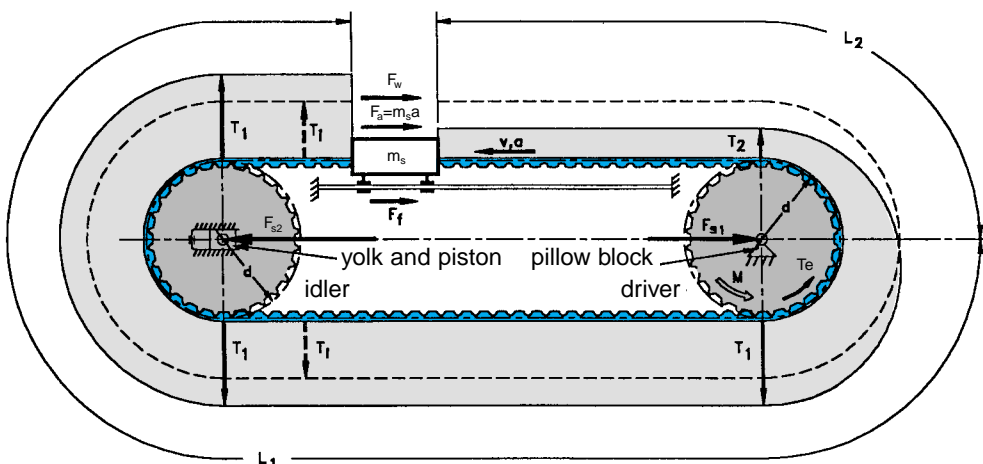

FIG. 3.
$T_e$  for a linear positioning application is primarily the sum of the following six factors (see Fig. 3).
2. The friction force  $F_f$  between the slide and the linear rail is determined experimentally, or from data from the linear bearing manufacturer. Other contributing factors to the friction force are bearing losses from the yolk, piston and pillow blocks (see Fig. 3).
(see Fig. 3)